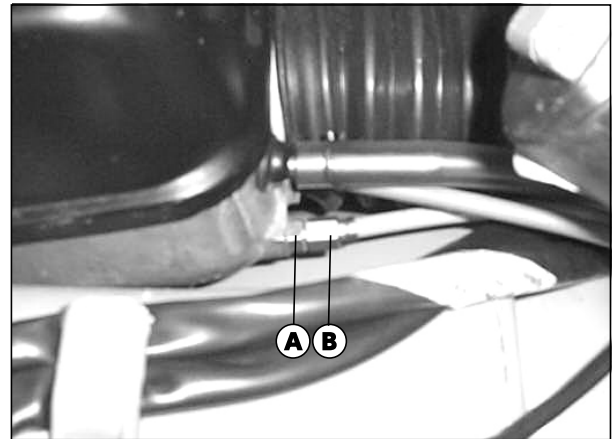

Fig. 100-Throttle adjustment
- (b) Adjust the free play of 2 mm. at throttle twistgrip by turning cable adjuster 'B' clockwise or anticlockwise fitted on air cleaner box. (fig.100)